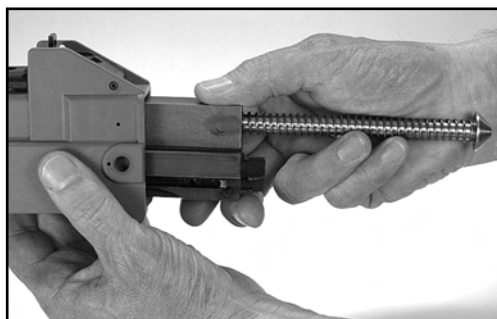

Fig. 25 Removing recoil spring
- 5 • Pull back the cocking lever and remove the recoil spring assembly and the bolt to the rear (figure 25).